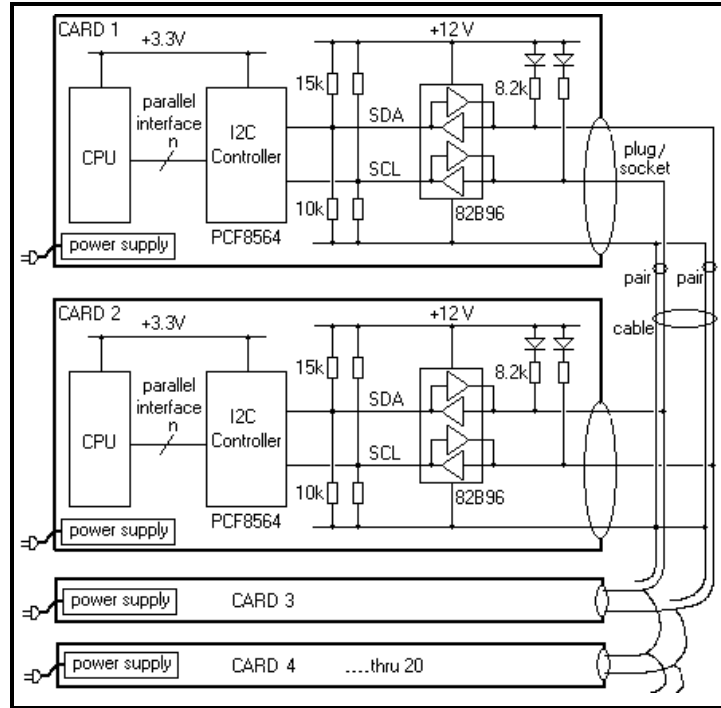

Figure 34. Mass Storage system, suggested configuration.
3. **Multiple Part Question:** Please refer to the system diagram of the mass storage in Figure 34. We are planning to interconnect the boards by the using the I²C bus.
In a system we want to suggest for our customers, the only I²C devices in the whole system are the PCA9564. There will be 20 of them used in a multi-master system as shown in Figure 34.